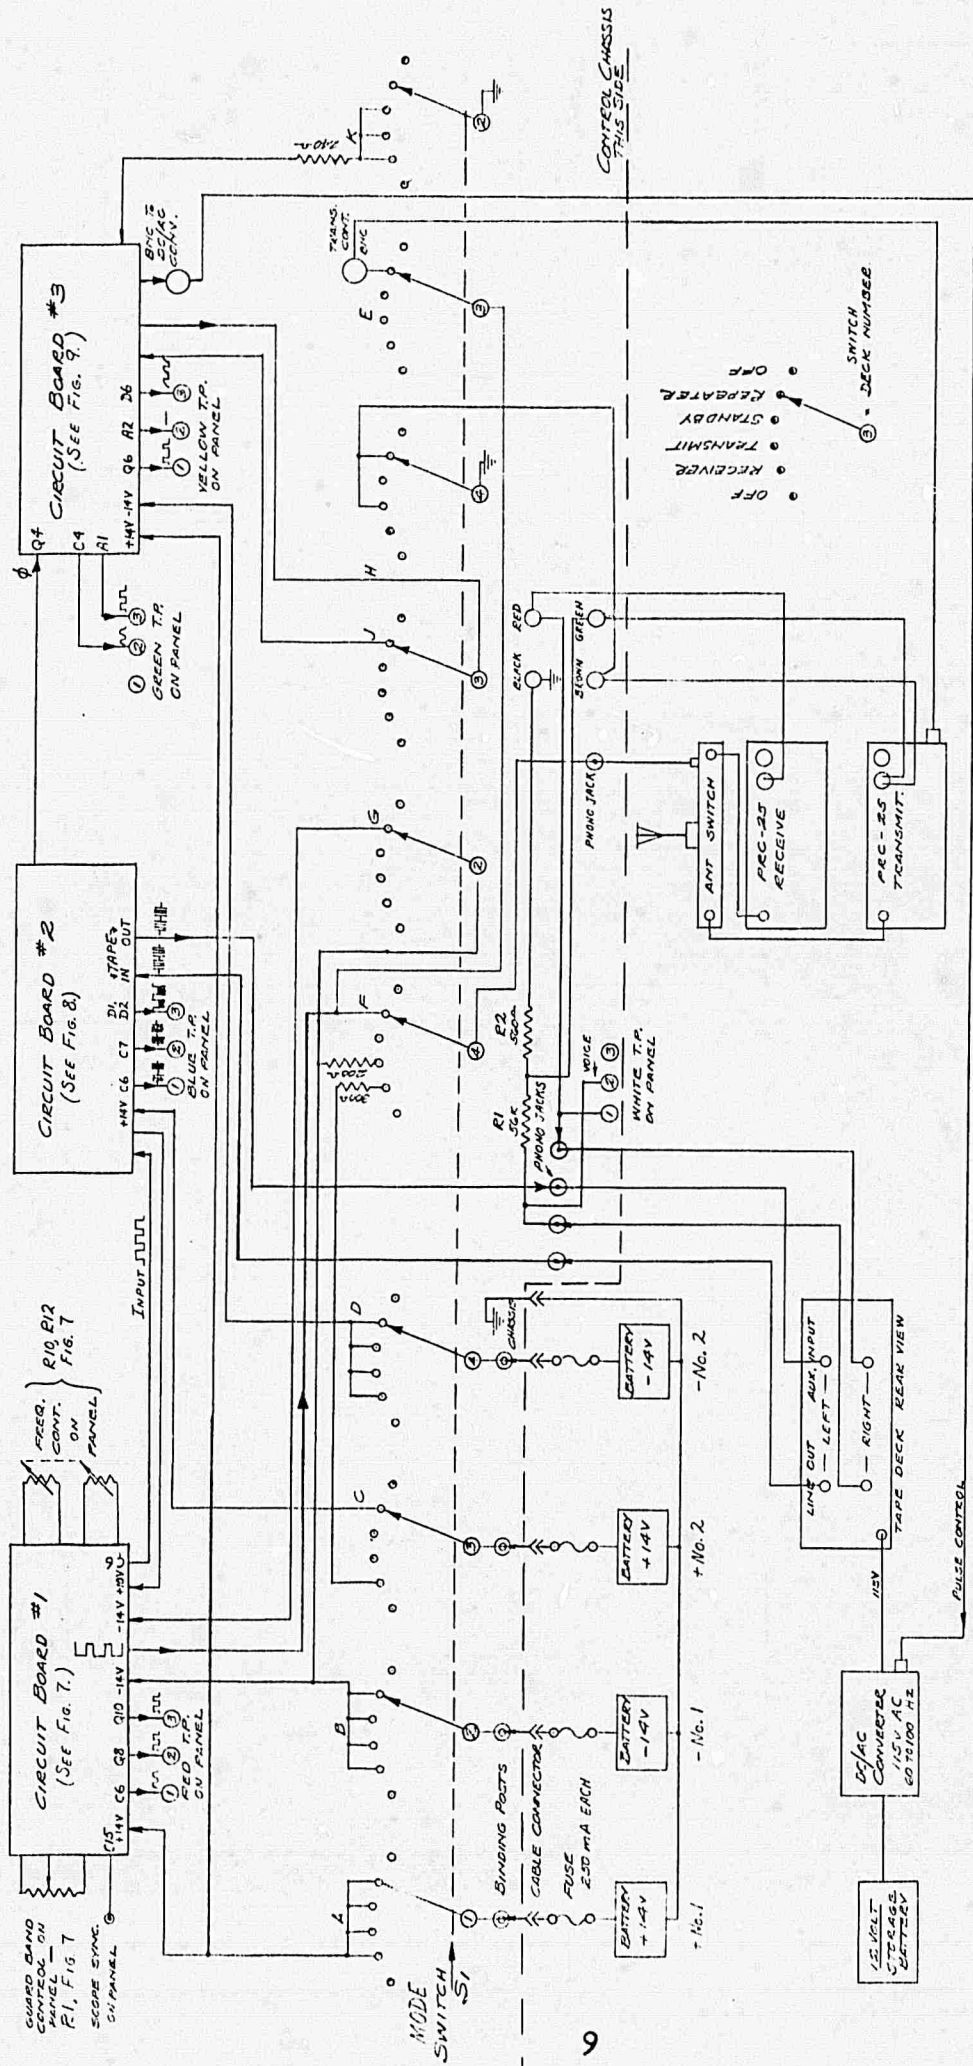

Figure 6. Repeater Overall Wiring Diagram
5. OUTPUT Connectors (Black, Brown, Fig. 6)
6. INPUT Connectors (Red, Green, Fig. 6)
7. MODE Switch (S1, Fig. 6)
11. POS. 15 V Connectors (+ No. 1, + No. 2, Fig. 6)
15. White Test Points\* (Fig. 6)
16. GND Connector (Fig. 6)
17. NEG. 15 V Connectors (- No. 1, - No. 2, Fig. 6)
The overall Repeater block diagram is shown in Fig. 6. Only the major blocks are shown; block details are described below.
### 3.2 POWER SUPPLY (SEE FIG. 6.)